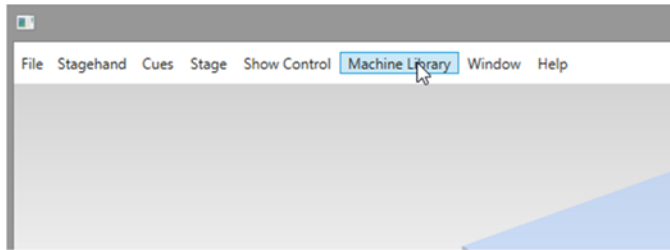

Figure 29
1. The easiest way to add another automated piece of scenery to a show is to use Spikemark's **Machine Library**. Click on the **Machine Library** menu (Figure 29).